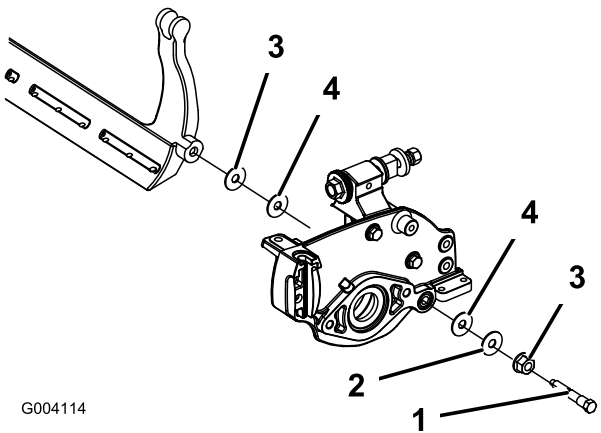

Figure 62
- 4. Remove each bedbar bolt allowing bedbar to be pulled downward and removed from machine. Account for 2 nylon and 2 stamped steel washers on each end of bedbar (Figure 62).